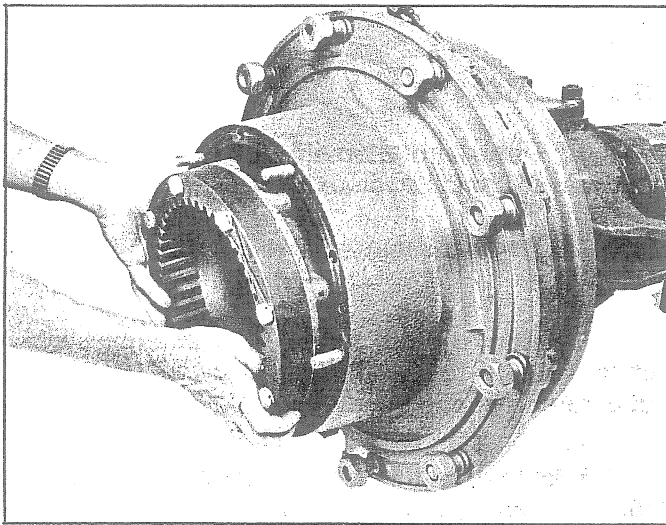

Fig. 8 - Removing Internal Ring Gear and Hub
7. Support the weight of the brake drum and hub assembly as shown in Fig. 8.
8. Remove internal ring gear and hub assembly from the spindle as shown in Fig. 8.